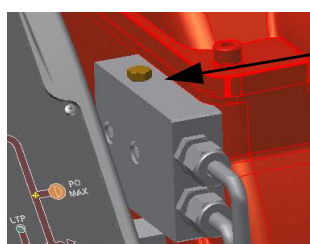
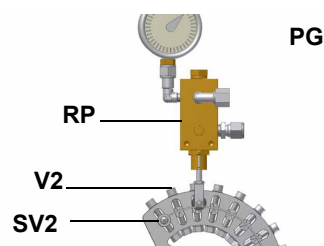

Fig. 11
Fig. 12
- (RD) I High flame
- (BU) II Stand-by
- (OG) III Low flame - gas
- (YE) IV Low flame - oil
- (BK) V Ignition - oil
- (GN) VI Ignition - gas
- 9 the nozzle supply pressure is already factory-set and must not be changed. Only if necessary, adjust the supply pressure as follows (see related paragraph); insert a pressure gauge into the port shown on Fig. 12 and act on the pump adjusting screw **VR** (see Fig. 11) as to get the nozzle pressure at 20bar (Monarch or Fluidics nozzles - see page 40-34).